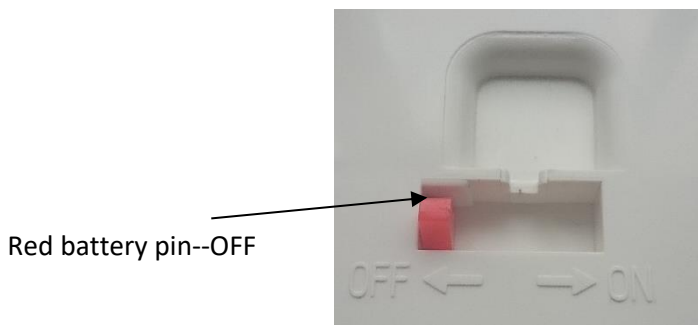
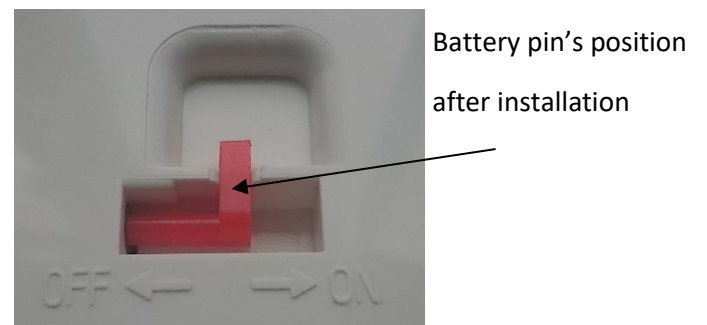

figure3
figure4
8. The battery pin (red) is OFF at beginning as figure 3. Turn it ON the battery pin will be moved into the pin groove position as figure 4